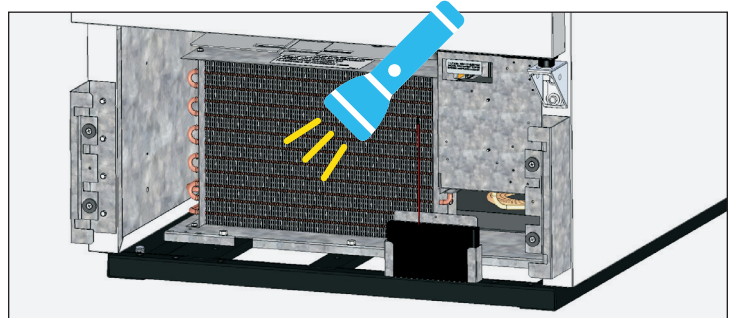

Fig. 3. Verify all blockages have been removed.
4. With dirt removed from the surface of the coil, use a flashlight to verify that you can see through the coil and observe the condenser fan blade spinning. See fig. 3.
- With dirt removed from the surface of the coil, use a flashlight to verify that you can see through the coil and observe the condenser fan blade spinning. See fig. 3.